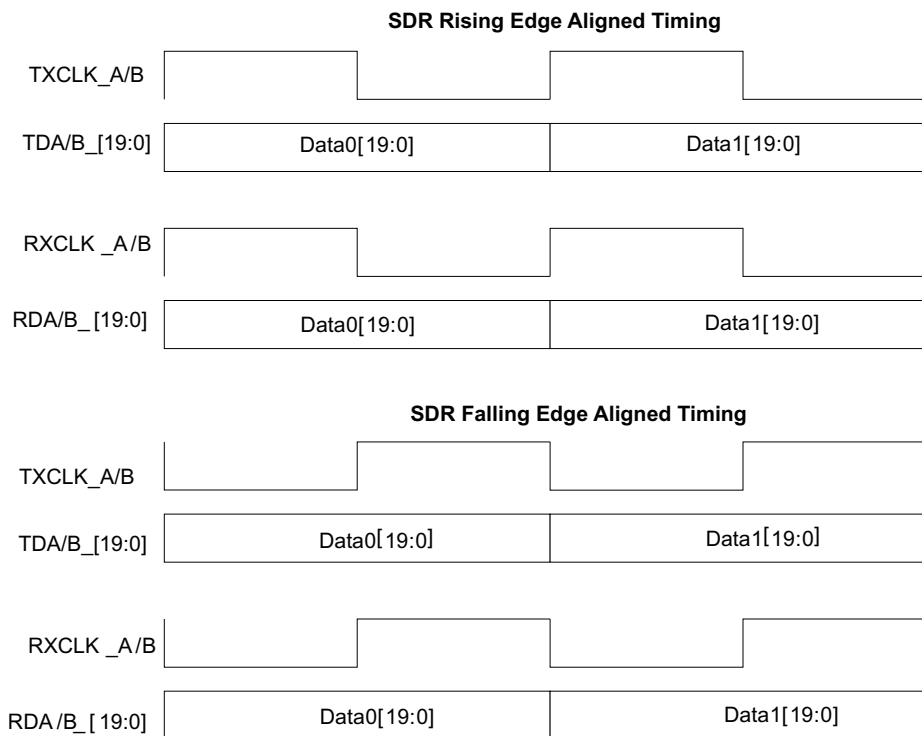

Figure 2-1. 20-bit SDR Parallel Interface Mode
20 Bits (two symbols) of already encoded (TX) or undecoded (RX) data are transferred per parallel interface clock cycle. Symbols are defined by a group of 10 parallel bits. Note that four symbols are shown in Figure 2-1: Data0[19:10], Data0[9:0], Data1[19:10], Data1[9:0].
The 16 Bits (two symbols) of unencoded (TX) or decoded (RX) data are transferred per parallel interface clock cycle. Symbols are defined by a group of 9 parallel bits comprising of a K character control bit and a byte of data (plus a high true disparity error or invalid symbol bit in RX only on RD*_[19] and RD*_[9]). Please note that four symbols are shown in Figure 2-1: Data0[18:10]={Control Bit, Data[7:0]}, Data0[8:0] = {Control Bit, Data[7:0]}, Data1[18:10] = {Control Bit, Data[7:0]}, Data1[8:0] = {Control Bit, Data[7:0]}. TXDA_[19], TXDA_[9], TXDB_[19], and TXDB_[9] are unused, and should be grounded in this application mode. See Appendix C for a full list of control characters supported in the 8b/10b encoder/decoder.
Figure 2-1 shows the two modes of operation in SDR mode, rising edge aligned mode and falling edge aligned mode. In rising edge aligned mode, TDA_* and TDB_* inputs are sampled on the falling edges of TXCLK_A and TXCLK_B respectively. In falling edge aligned mode, TDA_* and TDB_* inputs are sampled on the rising edge of TXCLK_A and TXCLK_B respectively. In rising edge aligned mode, RDA_* and RDB_* are timed such that an external device can sample the data using the falling edge of RXCLK_A and RXCLK_B respectively. In falling edge aligned mode, RDA_* and RDB_* are timed such that an external device can sample the data using the rising edge of RXCLK_A and RXCLK_B respectively.